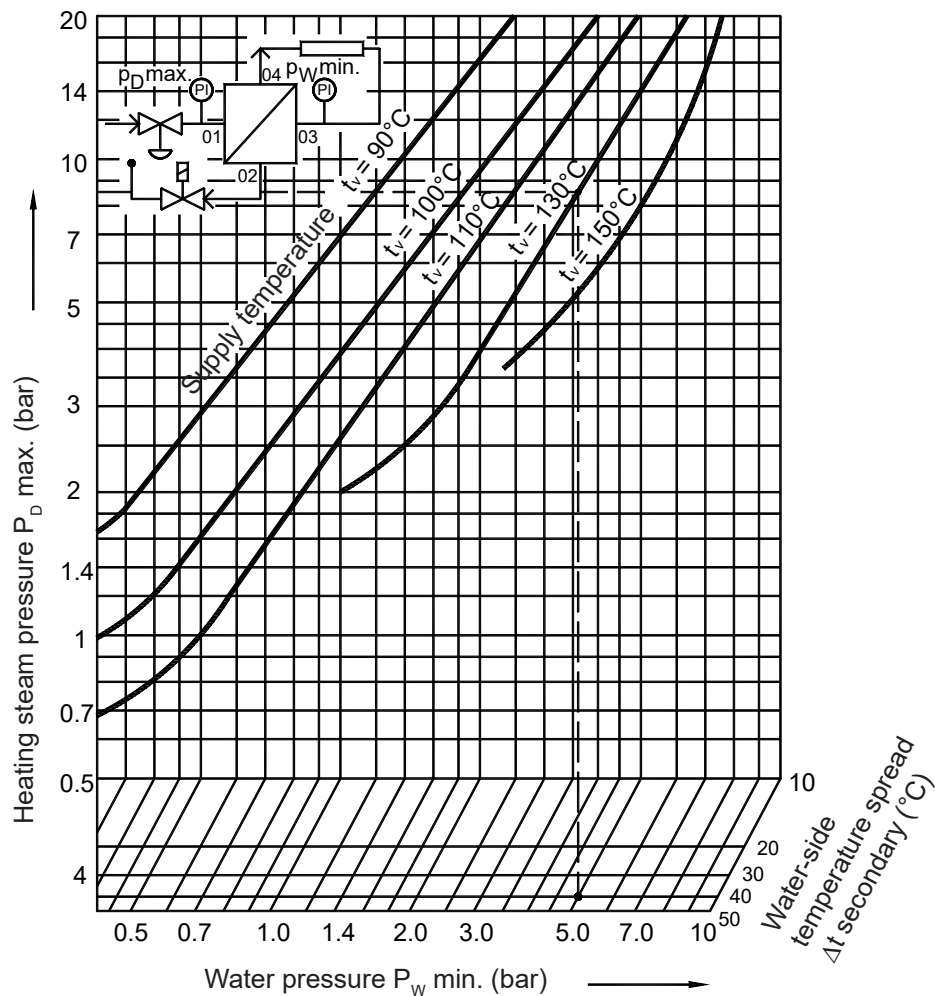

Fig. 3: Pressure / temperature diagram for steam-heated heat exchangers
8. Slowly open the fittings on the steam inlet side (01). The primary side of the device is now under the full pressure of the heating medium as the condensate control valve is still closed. You can now check whether all connections are tight.
10. For all water heaters, make sure that at the given max. steam temperature the existing min. water pressure on the secondary side is sufficient to prevent the formation of steam. See Fig. 3 (below).